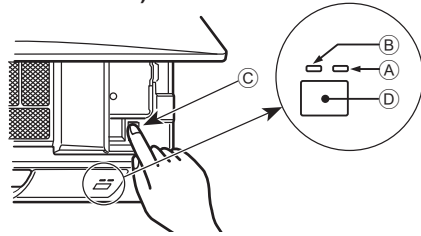
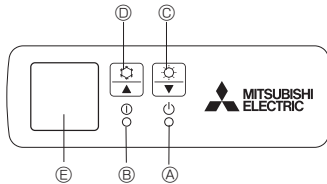

Fig. 5-1
Fig. 5-2
[Fig. 5-1] (A) DEFROST/STAND BY lamp (Orange)
- (B) Operation lamp (Green)
- (C) Emergency operation switch (cooling/heating)
- (D) Receiver
[Fig. 5-2] (A) DEFROST/STAND BY lamp
- (B) Operation lamp
- (C) Emergency operation switch (heating)
- (D) Emergency operation switch (cooling)
- (E) Receiver